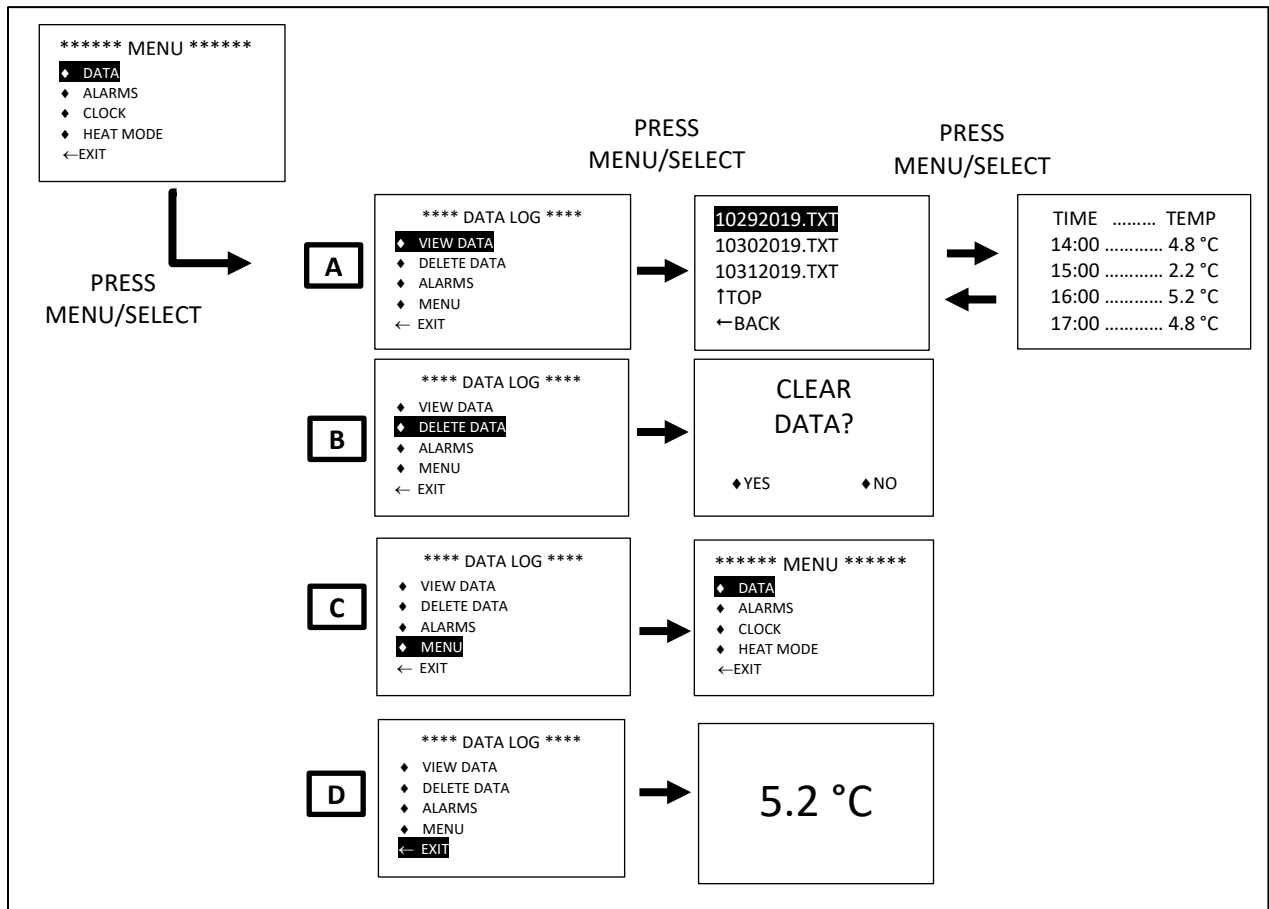

Figure 14: xFridge Data Log Menu
To access the DATA LOG, press MENU/SELECT button and use the ▲ and ▼ to highlight “DATA” then press MENU/SELECT again. This will bring up a menu with the ability to VIEW or DELETE Data Logging Files as shown in Figure 14. More information on Data Logging files can be found in Section 2.3.1.
- To VIEW files, use the ▲ and ▼ buttons to highlight “VIEW DATA” and press MENU/SELECT button (Refer to Figure 14 Row A). Use the ▲ and ▼ buttons to highlight desired file and press MENU/SELECT. This will open the data log for that date. Use ▲ and ▼ to scroll through the data log or press MENU/SELECT again to return to the file list. Highlight and MENU/SELECT “TOP” to jump to the first file or “BACK” to return to the DATA LOG menu.
- To DELETE files, use the ▲ and ▼ buttons to highlight “DELETE DATA” on the DATA LOG menu and press MENU/SELECT button (Refer to Figure 14 Row B). This will navigate to a screen for the user to confirm the selection. Press the MENU/SELECT button to confirm and DELETE all data files. Press the ▼ button to return back to the DATA LOG menu.
- To return to the MENU, use the ▲ and ▼ buttons to highlight “MENU” and press MENU/SELECT (Refer to Figure 14 Row C).
- To return to Temperature Display Mode, use the ▲ and ▼ buttons to highlight “EXIT” and press MENU/SELECT (Refer to Figure 14 Row D).